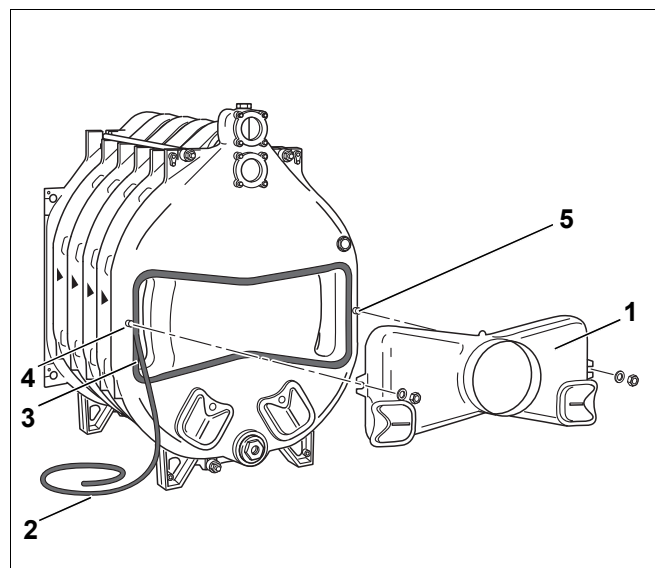

Fig. 24 Flue gas collector installation
Use sealing cord (→ Fig. 24, [2]) as a gasket between the boiler and the flue gas collector (→ Fig. 24, [1]).
- Firmly press the sealing cord into the groove. You must insert the packing cord so, that it lies in the lateral area of the groove (→ Fig. 24, [3]).
- Position the flue gas collector onto both bolts at the rear section (→ Fig. 24, [4] & [5]) and secure with washers and nuts.